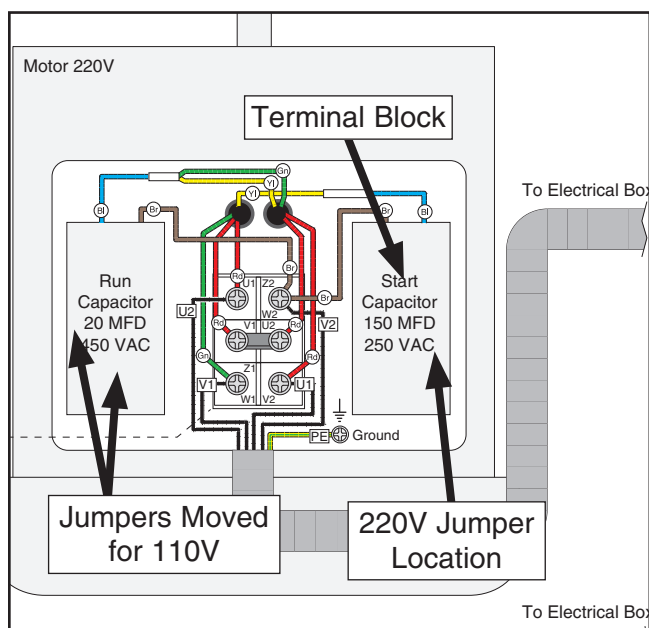

Figure 8. Jumper positions on terminal block.
10. Locate the terminal block located in the motor junction box, shown in **Figure 8**.
12. Place both of the jumpers into the 110V location shown in **Figure 8**.
13. Replace the screws you removed in **Step 11**, making sure all wires are secured in the same positions they were originally in, as shown in **Figure 8**. Refer to **SECTION 8: WIRING** starting on **Page 45** for detailed wiring diagrams.